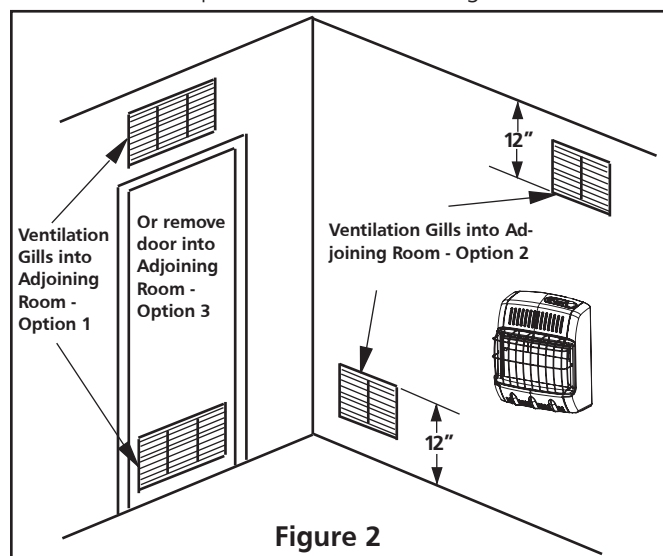

Figure 2
- A. Rework worksheet, and the space of an adjoining room. If the extra space provides an unconfined space, remove door to adjoining room or add ventilation grills between the rooms. See Ventilation From Inside Building (Fig. 2)
This fresh air would come from an adjoining unconfined space. When ventilation to an adjoining unconfined space, you must provide two permanent openings: one within 12" of the ceiling and one within 12" of the floor on the wall connecting the two spaces (see options 1 & 2 of figure 2). You can also remove door into adjoining room (see option 3, fig 2). Follow the National Fuel Gas Code NFPA 54/ ANSI Z223.1, Section 5.3, Air for Combustion and Ventilation for required size of ventilation grills or ducts.